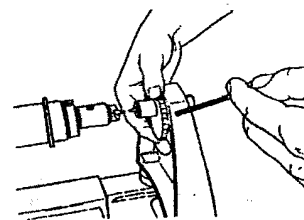

Fig.4
4. Loosen the setscrew in the tailstock which secures the eccentric mount. Horizontally align the cup center to the drive center by pivoting the eccentric mount and then tightening the setscrew, shown in Fig.4.